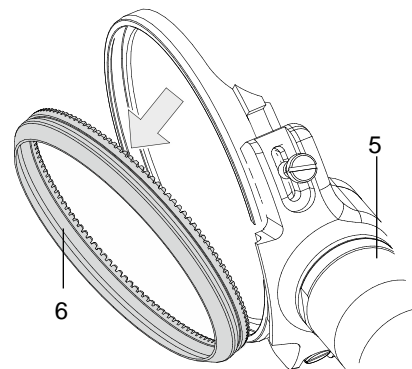

Fig. 7.3 – Removing the blade
- 5) Incline the handle (5) until the knife (6) falls out, see Fig. 7.3.